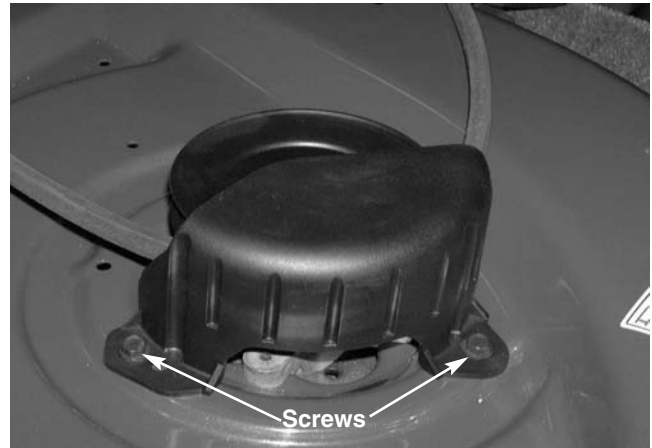

FIGURE 2.
- 4). Remove the self tapping screws securing the spindle belt covers. See figure 2.